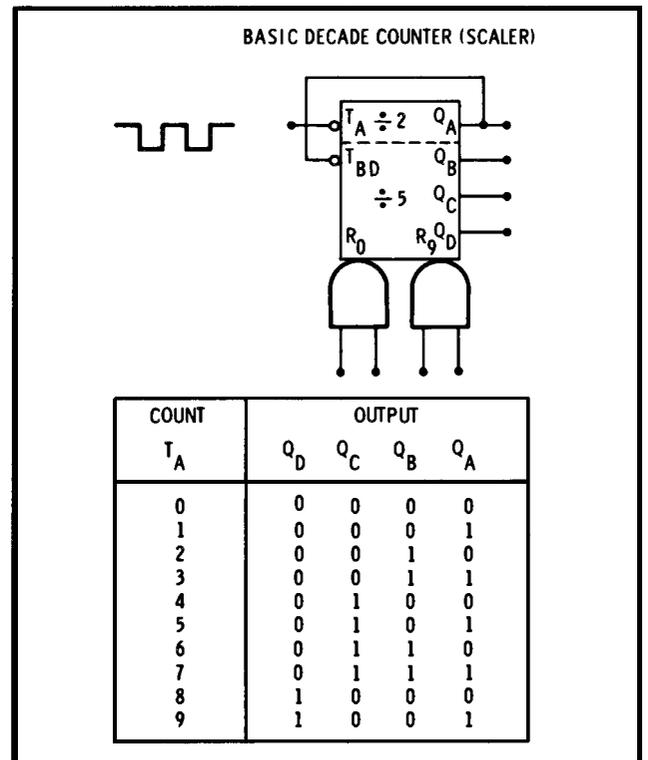

Figure 8-12. Basic Decade Counter (Scaler)
8-61. Basic Counter. The basic decade counter (or scaler or divider), shown in Figure 8-12, has ten logic states. The active-high outputs (QA, QB, Qc, and QD) increment by one BCD count each time the trigger (TA) or clock input goes from a high to a low. The count sequence is also shown in the file. The counter may be subdivided into a divide-by-two and a divide-by-five counter. The two counters are connected in series (the QA output connected to the TBD input) to obtain a divide-by-ten counter. The counter has two ANDed clear or reset-to-zero (R0) inputs. When both R0 inputs are high, the outputs clear to zero. The clear function overrides the clock. Similarly, the two ANDed set or reset-to-nine (R9) inputs set the outputs to the nine count. If all reset-to-zero and reset-to-nine inputs are simultaneously high, the reset-to-nine overrides the reset-to-zero.